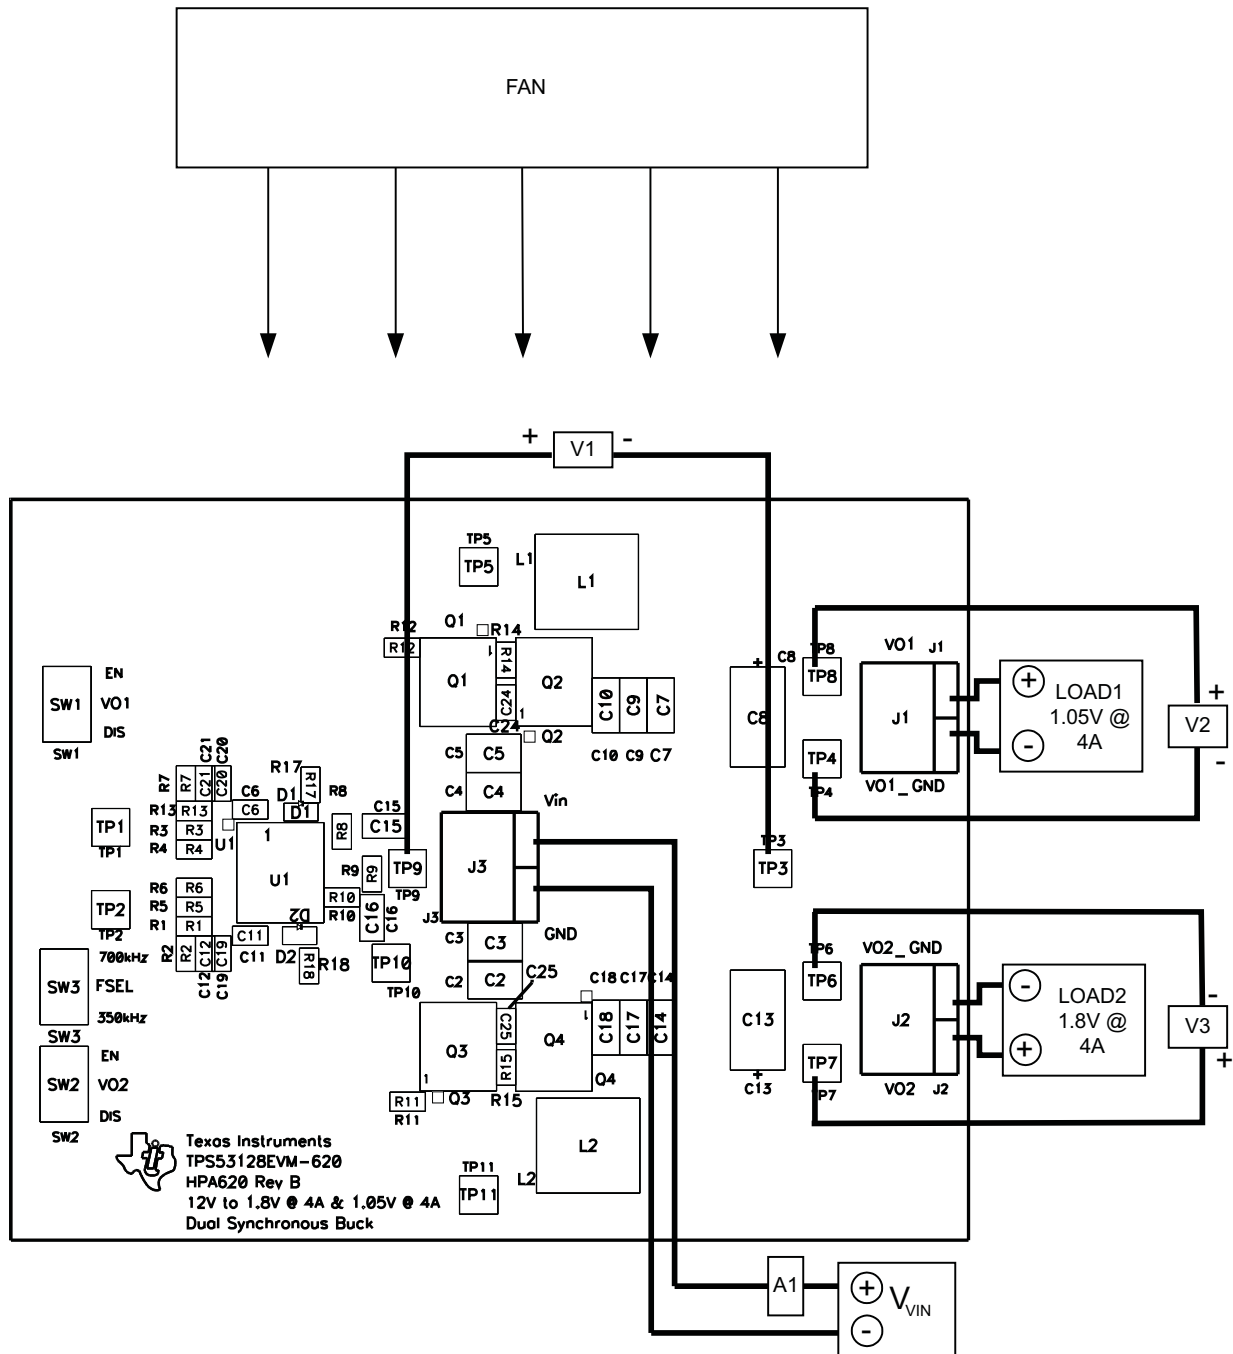

Figure 3. TPS53128EVM-620 Recommended Test Setup
Figure 3 shows the recommended test setup to evaluate the TPS53128EVM-620. Working at an ESD workstation, make sure that any wrist straps, bootstraps or mats are connected referencing the user to earth ground before power is applied to the EVM. Electrostatic smock and safety glasses also are recommended.
4. Place a fan as shown in Figure 3 and turn on, making sure air is flowing across the EVM.